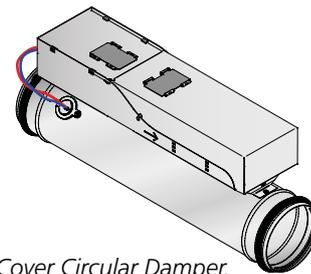

Figure 1. WISE Cover Circular Damper.
- WISE Cover Circular Damper, cache de finition pour installations visibles, se reporter à la figure 1.